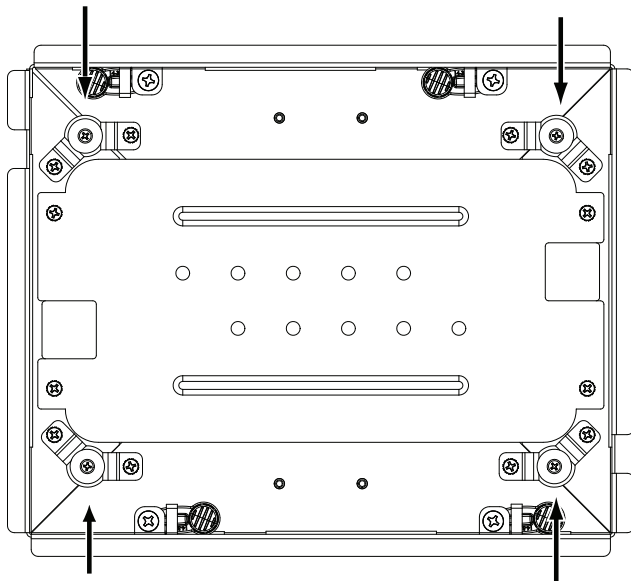

Figure 9: Height Adjustment Screws
1. Mounting frame is supplied with a preset height setting. The preset adjustment will likely result with a space between the bezel and the wall surface. To adjust the height setting, turn screws clockwise, one turn at a time, until bezel fits snugly against the wall as shown in figure 9.